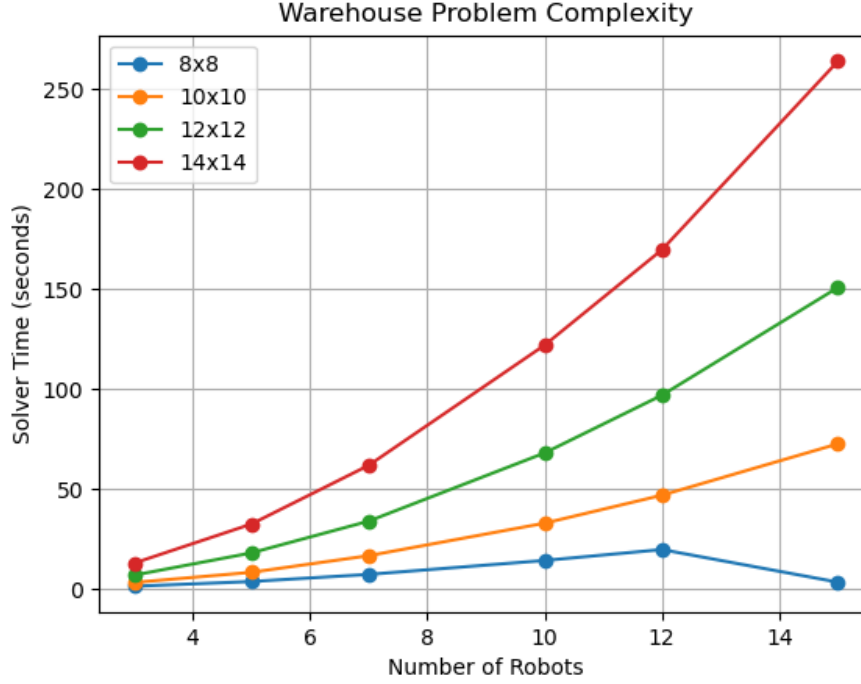

Figure 3: Time taken to compute solutions for different grid sizes ($8 \times 8, \dots$) and different number of robots
- The approach is not that scalable for obvious reasons (combinatorial number of variables...). Figure 3 shows the time to compute a solution based on number of robots and grid size.